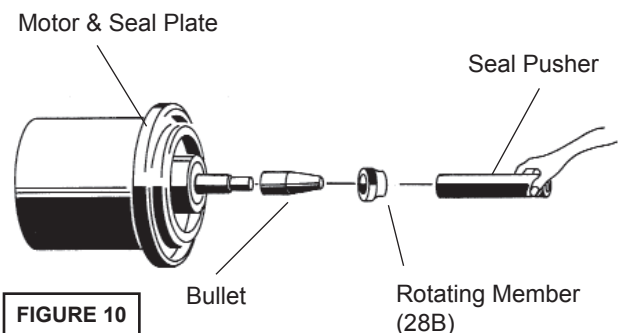
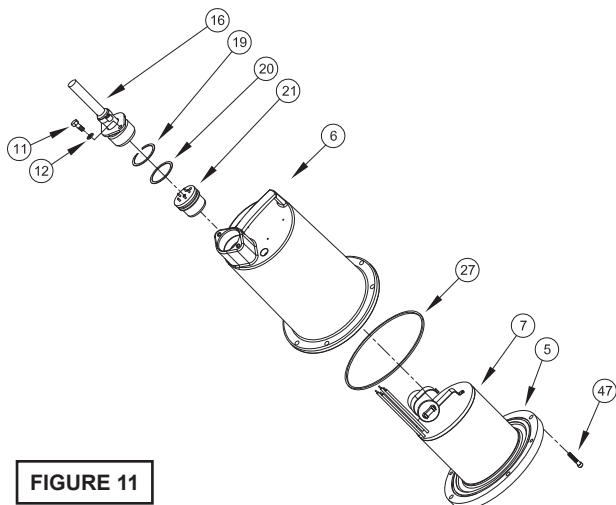

FIGURE 10
FIGURE 11
Position unit upright, using blocks to avoid resting unit on shaft. Unscrew cable hex bolts (11) and remove compression flange (16a) and power cord (16). Remove snap ring (19) with a flat head screwdriver. Pull the terminal block (21) out of the housing (6) using a T-bolt or a pair of pliers and a .25-20 screw in the threads of the terminal block (21). Be sure to leave slack on the motor leads connected underneath. Use needle nose pliers to pull each female connector off of the pins on the underside of the terminal block (21) see Figure 10. The unit voltage should be noted. Repeat cable and terminal block removal procedure for any control cables (56) if equipped. Remove socket head cap screws (47). Vertically lift the motor housing (6) from seal plate (5) by lifting handle (13). Inspect square ring (27) for damage or cuts. Remove the motor bolts and lift motor stator from seal plate (5). Disconnect capacitor leads from capacitor (9, single phase units). Examine bearing (25) and replace if required. If replacement is required, remove bearing (25) from motor shaft using a wheel puller or arbor press, see Figure 11.